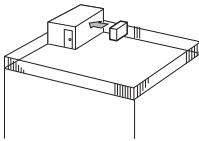

Fig. 2-4
① Face the air outlet towards the nearest available wall about 35 cm, 13 25/32 inches away from the wall. (Fig. 2-4)